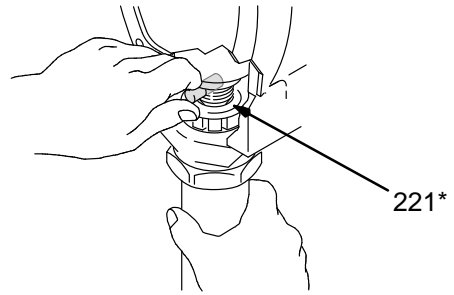

Fig. 37
2. Install the pin (221\*). See Fig. 37.